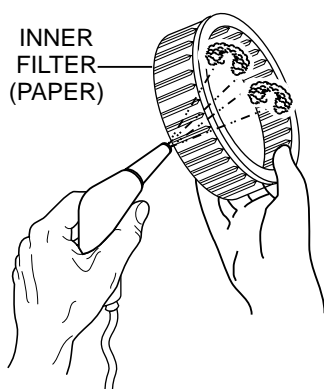

Figure 18. Cleaning Inner Paper Filter
1. To clean the paper air filter (Figure 18), tap the filter element several times on a hard surface to remove dirt, or blow compressed air (not to exceed 30 psi (207 kPa, 2.1 kgf/cm²) through the filter element from the inside out.